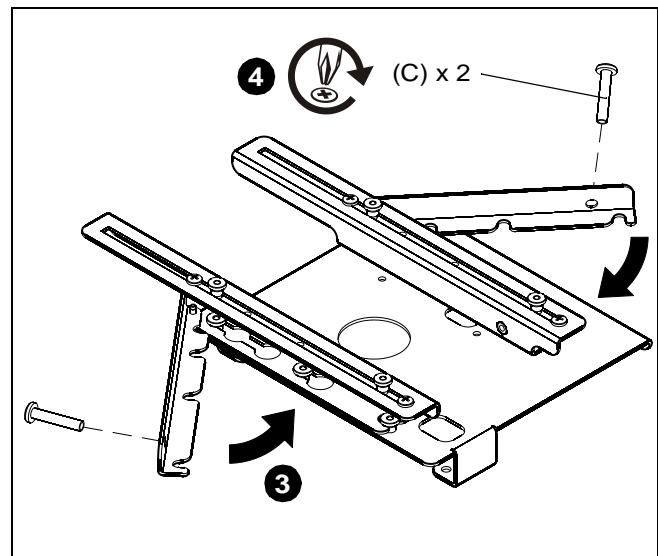

Figure 4
4. Secure bracket arms with one 10-32 x 1" Phillips machine screw (C) on outside of each LSB bracket. (See Figure 4)